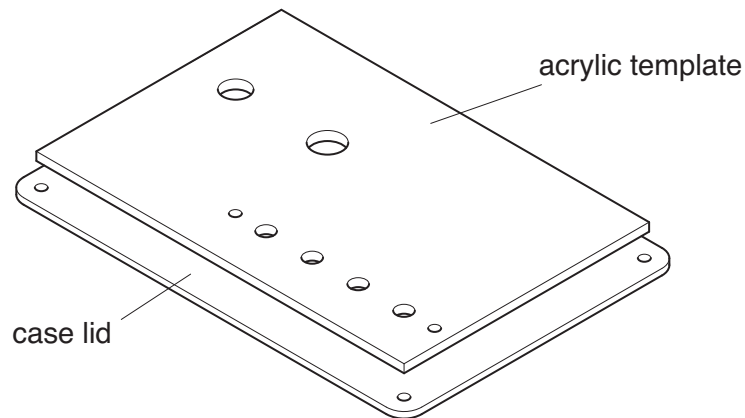

Fig. 16
- (iii) Fig. 16 shows the laser cut template and the case lid that is to be drilled.